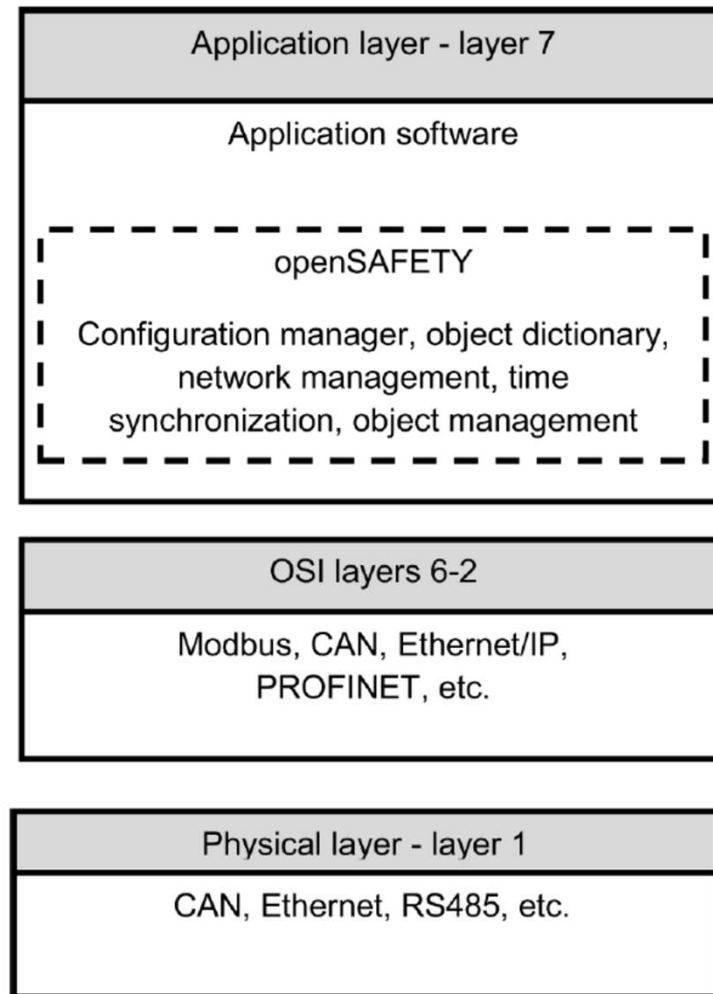

Figure 1-8. A typical openSAFETY architecture
- Figure 1-8 illustrates the relationship of openSAFETY to the other protocols in the OSI layered architecture.